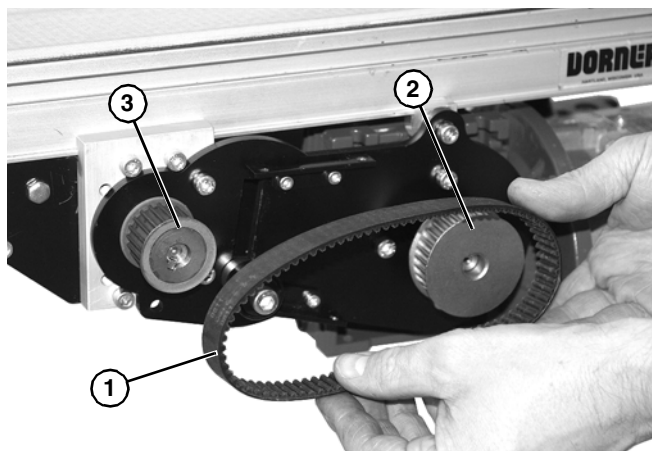

Figure 17
3. Remove timing belt (Figure 17, item 1).
If timing belt does not slide over driven pulley (Figure 17, item 3) flange, loosen driven pulley set screws and remove pulley with belt (Figure 17, item 1). For re-installation, see steps 7 and 8 of "Bottom Mount Mid Drive Assembly" story on page 8.
4. Install new timing belt around drive pulley (Figure 17, item 2) and driven pulley (Figure 17, item 3).
If drive pulley (Figure 17, item 2) is replaced, wrap timing belt around drive pulley and complete step 3.